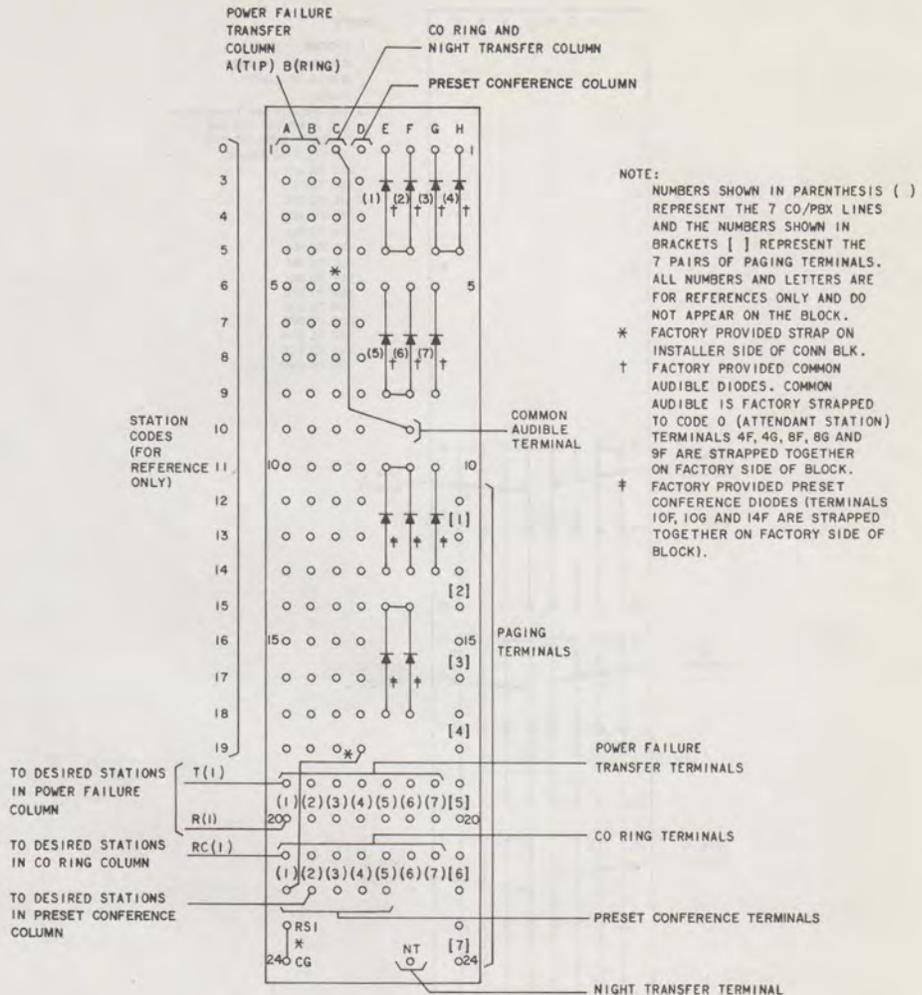

Fig. 3—Terminal Arrangement For Connecting Block 1
- (a) Connecting block 1 (Fig. 3) contains the diode arrangement for preset conference and common audible signaling. Terminals are provided for strapping the power failure transfer, CO ringing, preset conference, paging, and night transfer.